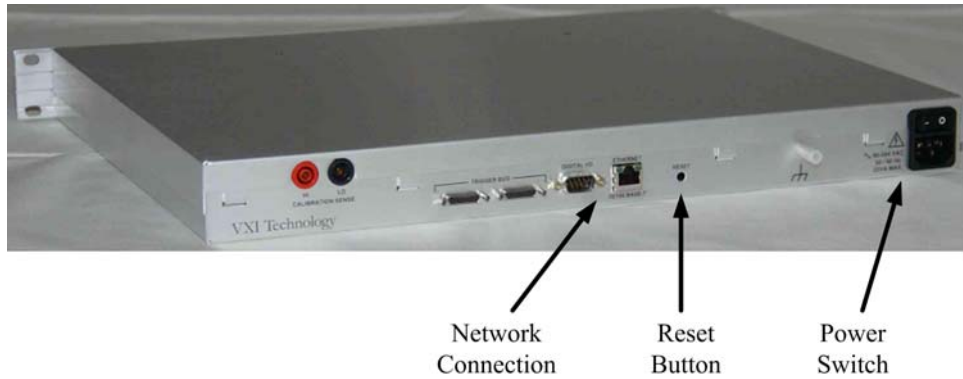

FIGURE 1-6: EX1048 (REAR VIEW)
1) Shut down both the computer and the EX1048 (see Figure 1-6).